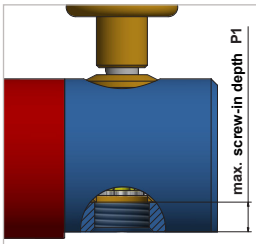

Figure 4
**Please note:** Consider *Figure 4* for the max. screw-in depth.